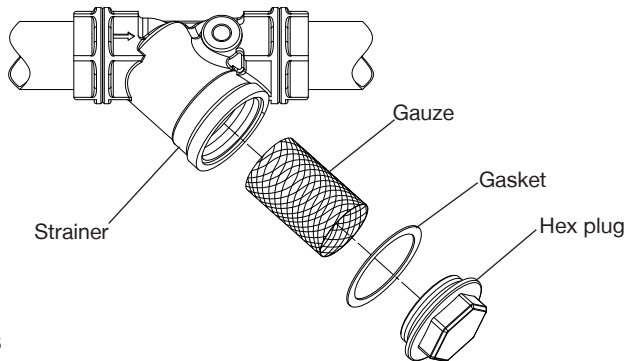

Fig. 8
- The strainer is located in the inlet pipework to the pump (Fig. 8). The gauze filter is removed as follows:-
- Remove screwed hexagonal plug from strainer body taking care to collect or absorb any residual water (Fig. 8).